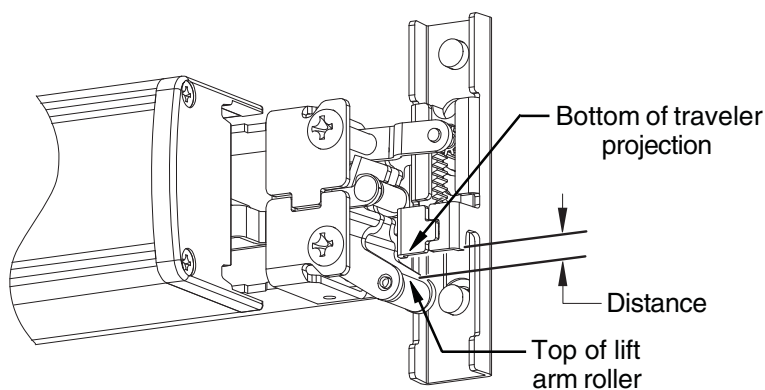

Figure 5-1
- Measure the distance between the bottom of the traveler projection and the top of the lift arm roller (see Figure 5-1).